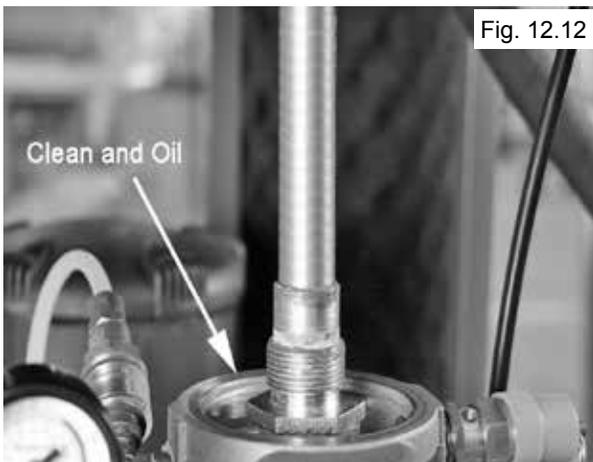

Fig. 12.12
5. Clean the threads and seat and then apply a light layer of clean oil to the face of the Air Oil Separator Filter seat. (See Fig. 12.12)